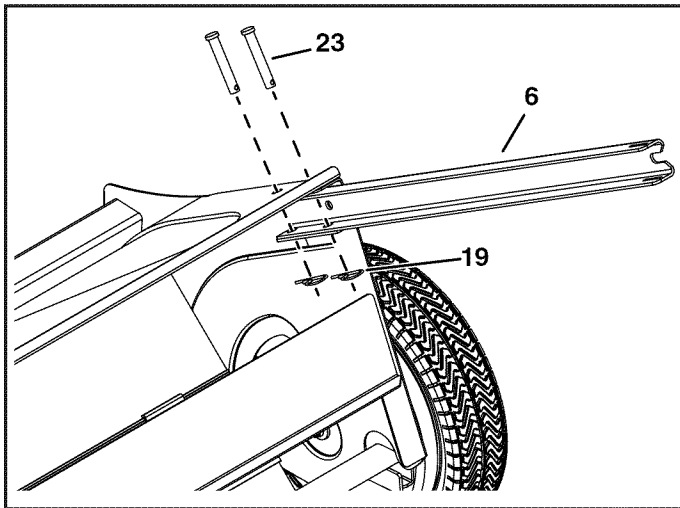

FIGURE 1
- (1) Hammer
STEP 1: (SEE FIGURE 1)
- Secure each bag arm channel (6) to the sweeper housing using two 3/8" x 2-1/4" clevis pins (23) and two small hairpin cotters (19).